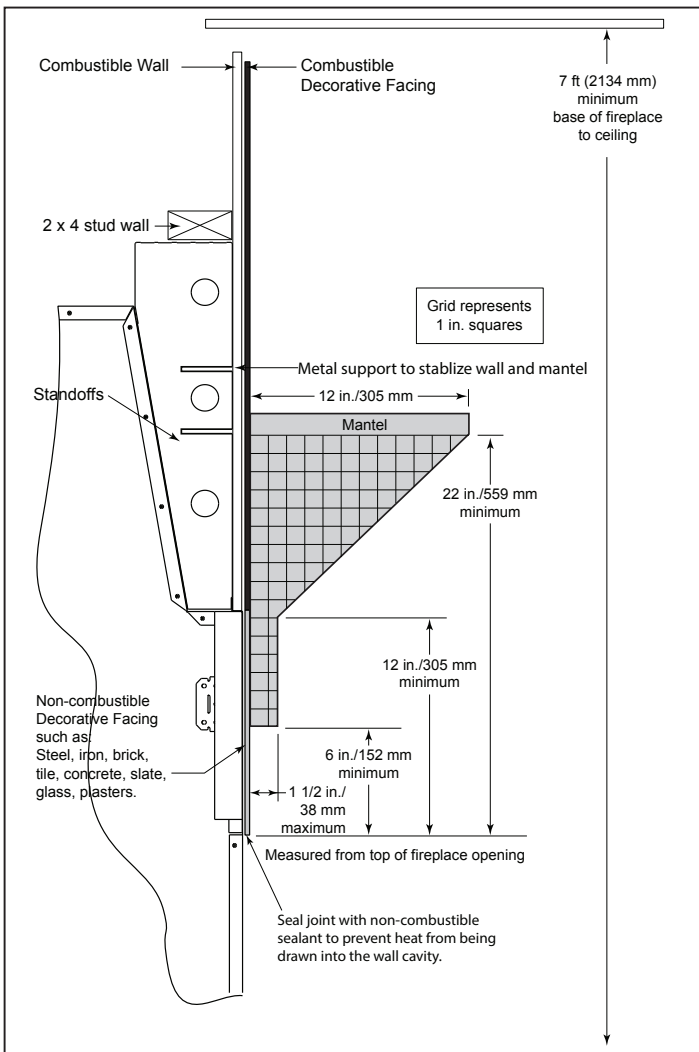

Figure 9.9 Clearance to Mantel or other combustibles above fireplace
- Refer to the shaded areas of Figure 9.9 for the location and dimensions of a combustible mantel.